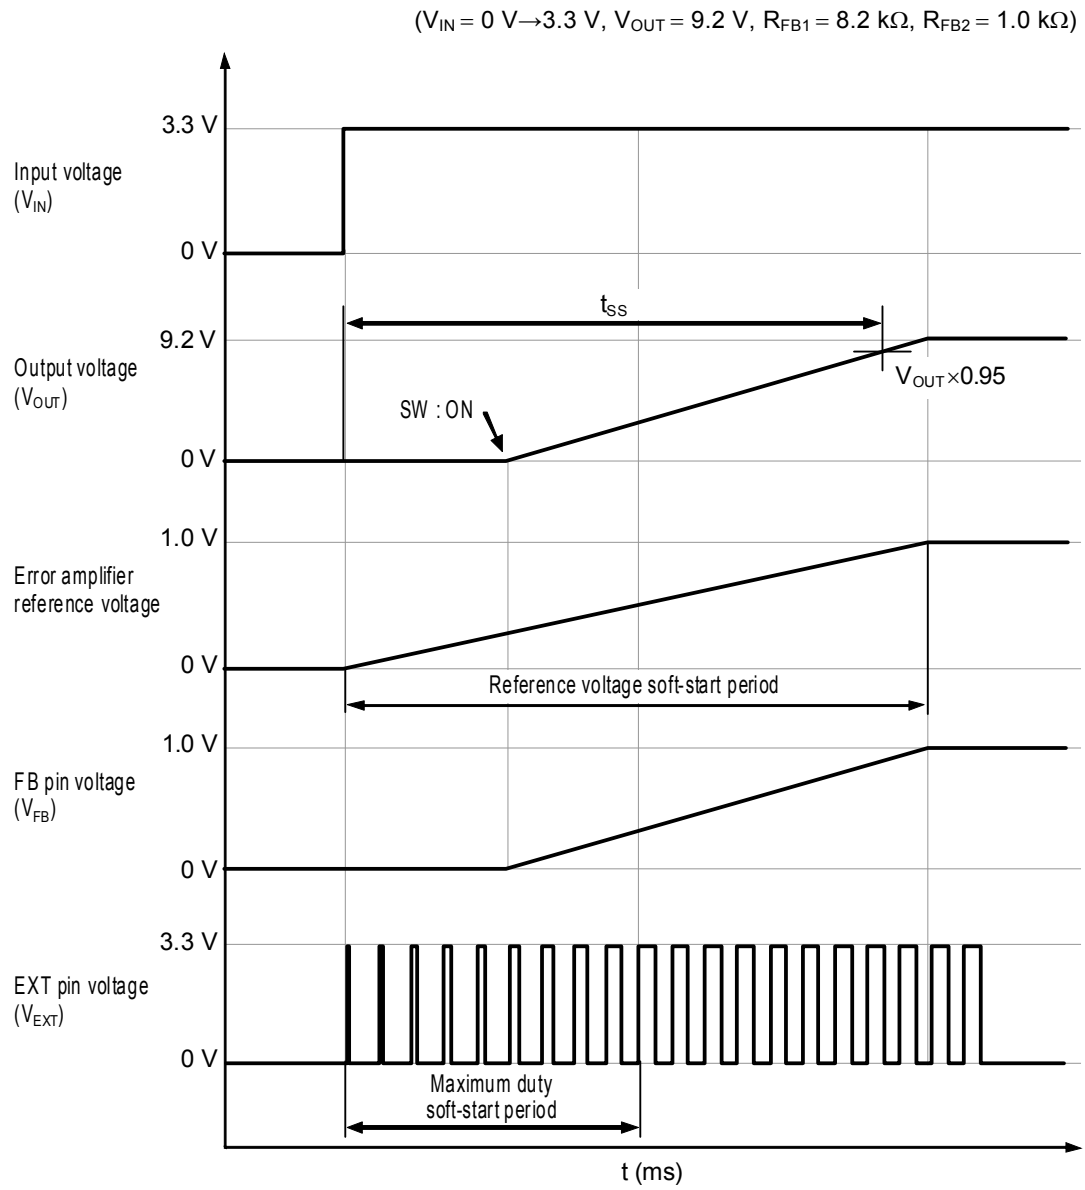

Figure 8
In the circuit where the input voltage is not directly output at shutdown by inserting a switch (SW) between the diode (SD) and V_{OUT} output, the V_{OUT} voltage when the V_{IN} voltage is applied with the SW OFF stays 0 V. Therefore, the voltage of the FB pin stays 0 V and the EXT output is in the step up status between the “H” and “L” levels due to the maximum duty. The maximum duty at this time is approximately 7% and the rush current at power application is controlled. The maximum duty soft start is accomplished by gradually increasing the duty width up to the maximum duty set by the external resistor RDuty (refer to **Figure 8**).